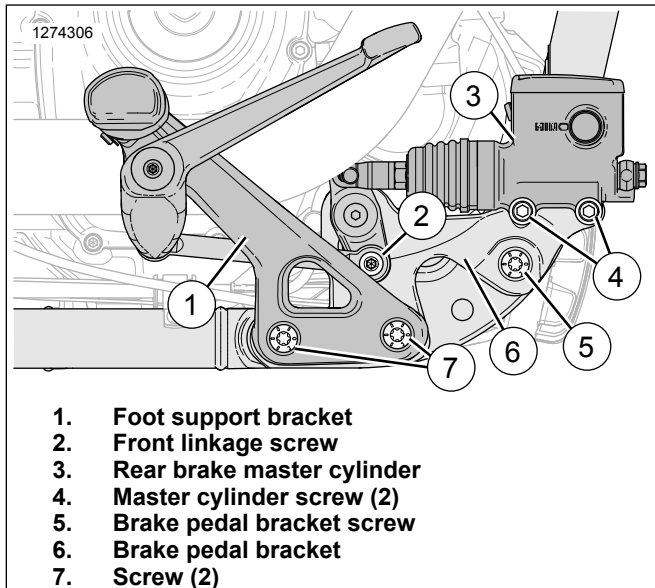
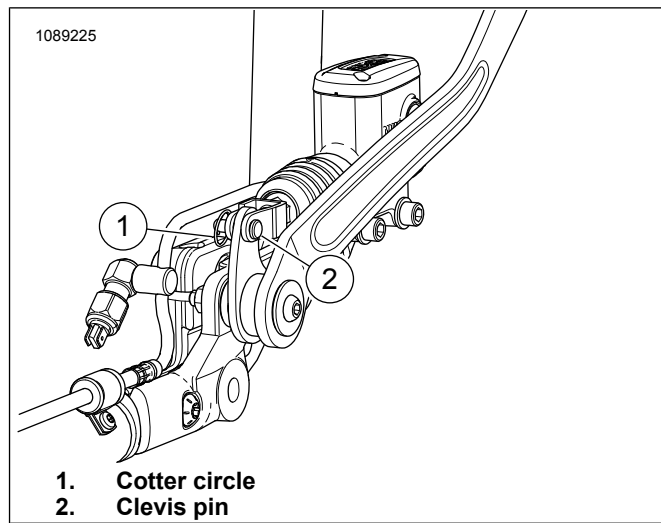

Figure 8. Right Side Mid Controls
Figure 9. Rear Master Cylinder - Rear View: (exhaust remove for clarity)
- b. Remove clevis pin (1).
- c. Remove footpeg (4).
- d. Remove torsion spring (2).
2. See Figure 8. Remove right side foot support bracket.
- a. Remove front linkage screw (2).
- b. Remove screws (7).
- c. Remove foot support bracket (1).
- a. See Figure 9. Remove cotter circle (1).
- b. Remove clevis pin (2).
- c. See Figure 8. Remove screws (4).
- d. Support rear brake master cylinder (3).
- a. Remove screw (5).
- b. Remove brake pedal bracket (6).
- b. See Figure 9. Install clevis pin (2).
- c. Install cotter circle (1).